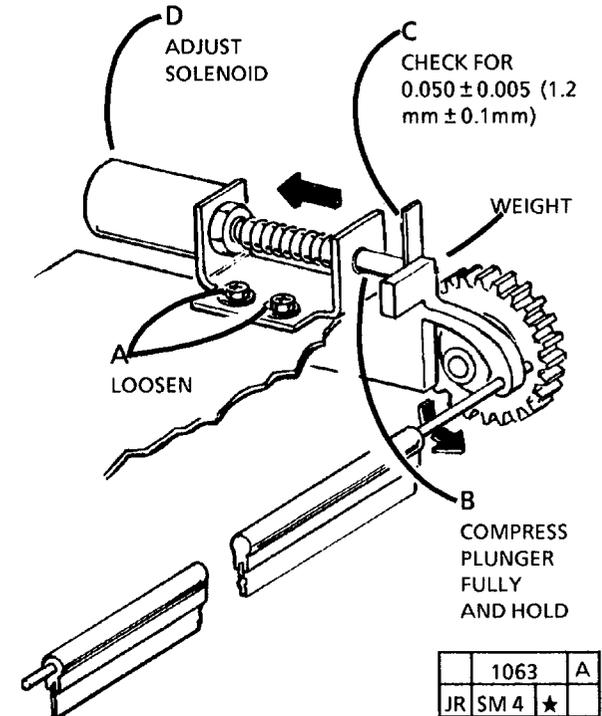

Figure 2. Adjust the Cleaner Blade Solenoid
1. (FIGURE 2): ADJUST THE CLEANER BLADE SOLENOID.